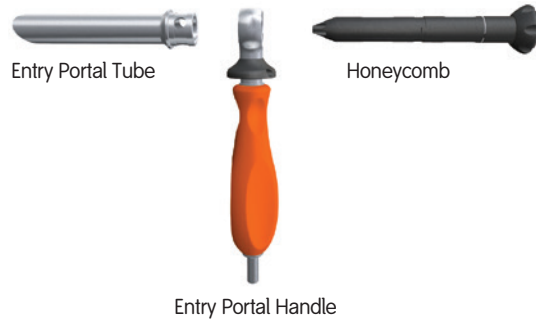

Figure 3
2. Assemble the Honeycomb (71674075), Entry Portal Handle (71674092), and Entry Tube (Figure 3) by pulling back the black trigger of the Entry Portal Handle and inserting the Entry Tube into the handle ring.